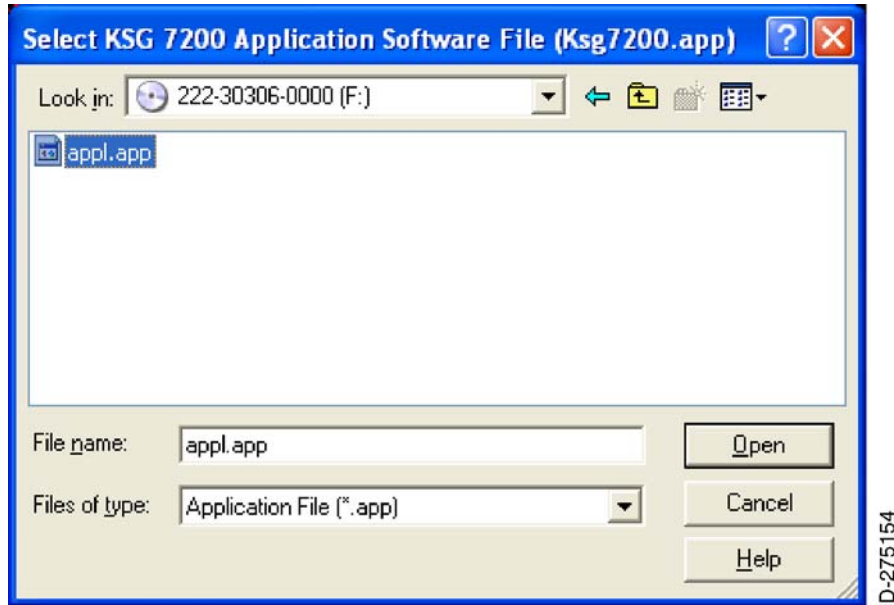

Figure 12. (Sheet 1 of 1) KSG 7200 Application Software File (Ksg7200.app) Window
- (12) The Select KSG 7200 Application Software File (Ksg7200.app) window will appear. Refer to Figure 12.